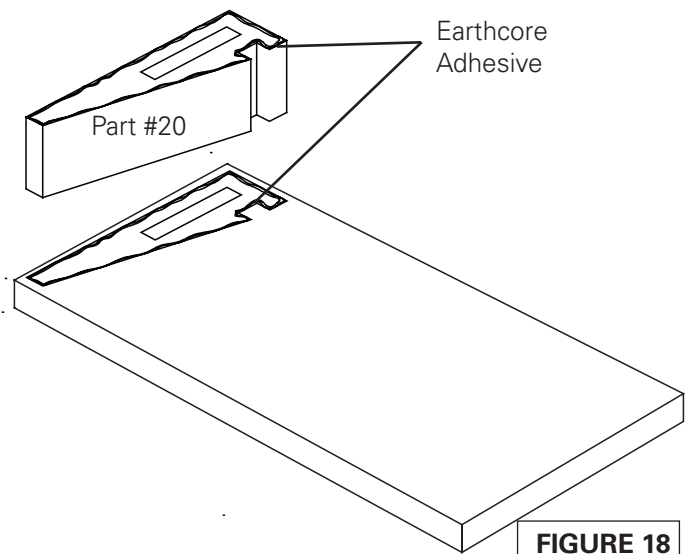

FIGURE 18
If the design preference is for a raised hearth (floor of the fireplace elevated above the room's floor), then the base plate can be set on a noncombustible platform that is built up to the desired raised hearth height on the concrete support slab. (Figure 18)
2. Set the first course of the firebox side walls and back walls into place. (**Figure 18 & 19**)